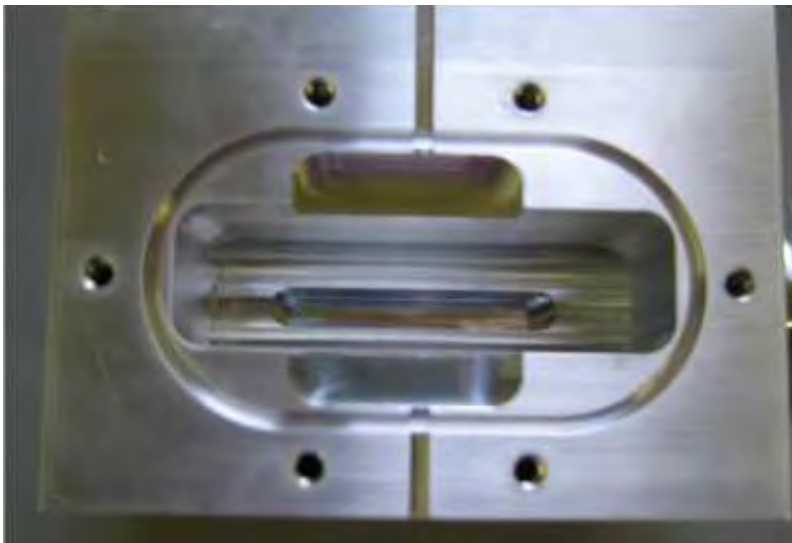

Figure B-82 Inside of Spectrometer Body
10. If the inside of the spectrometer body appears to be dirty, clean it with a lint free wipe and Isopropyl alcohol (Figure B-82).